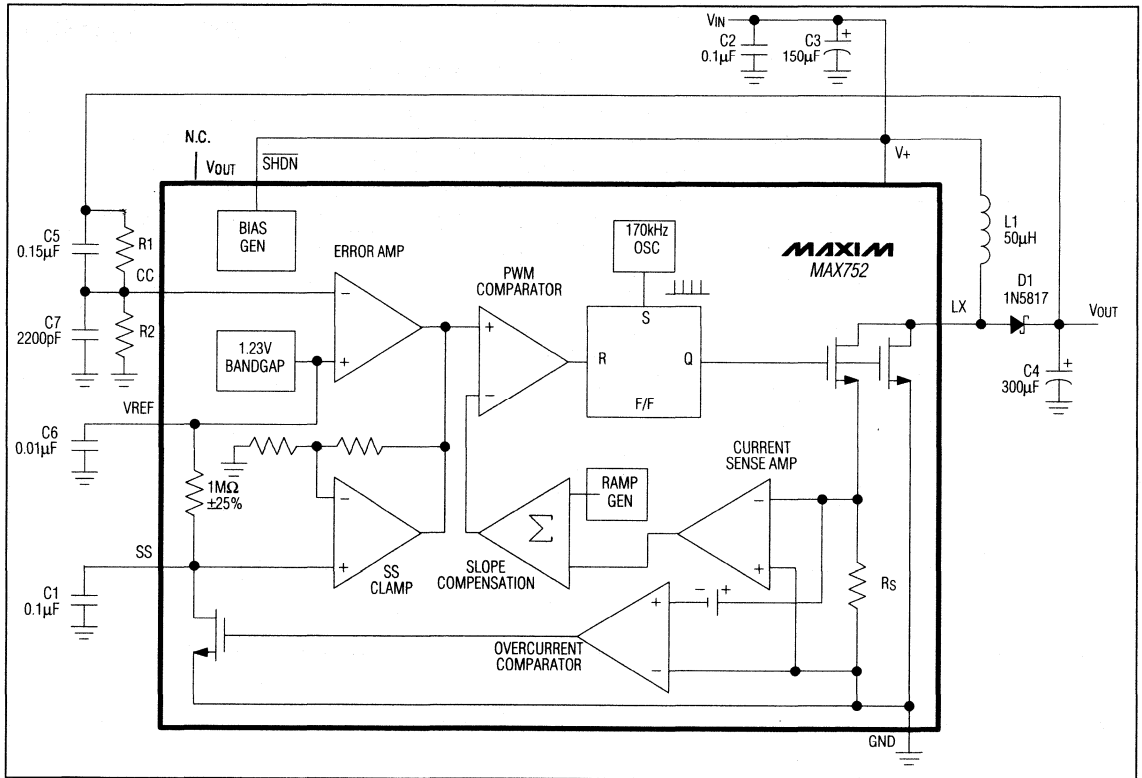

Figure 1b. MAX752 Detailed Block Diagram with External Components, Optimized for 12V Output.
The output voltage for the MAX752 is set by two resistors, R1 and R2 (Figures 1b and 2b), which form a voltage divider between the output and the Compensation Capacitor (CC) pin. The regulator adjusts the output so the voltage at the junction of R1 and R2 is equal to the +1.23V bandgap reference voltage. Since CC is a CMOS input, its input impedance is nearly an open circuit, which will not load the voltage divider. R2 can be any value between 10k $\Omega$  to 30k $\Omega$ . R1 is given by the formula: